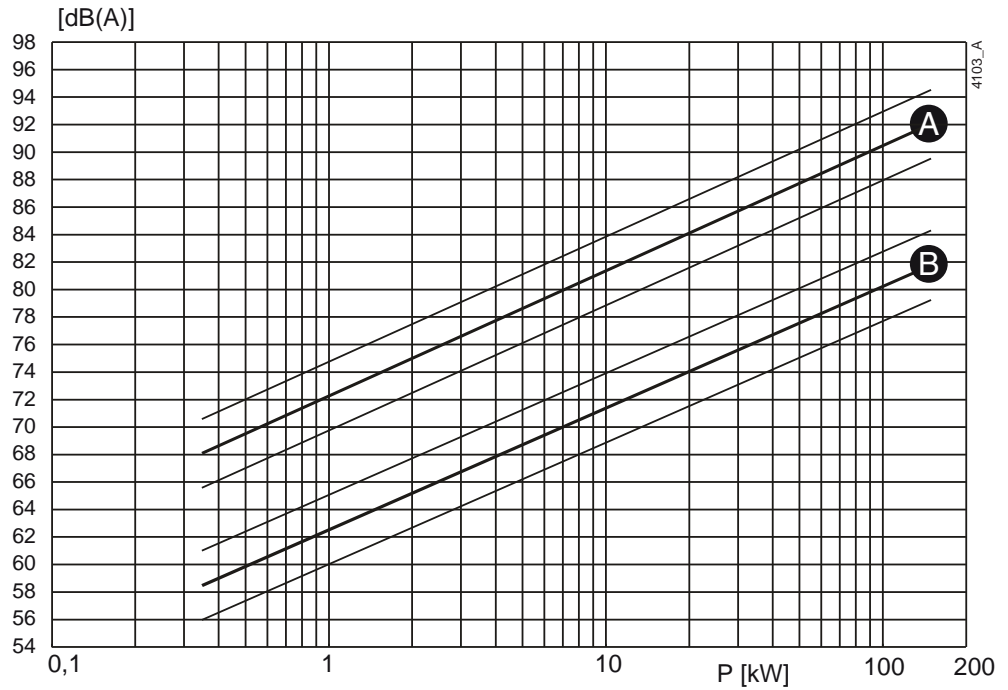
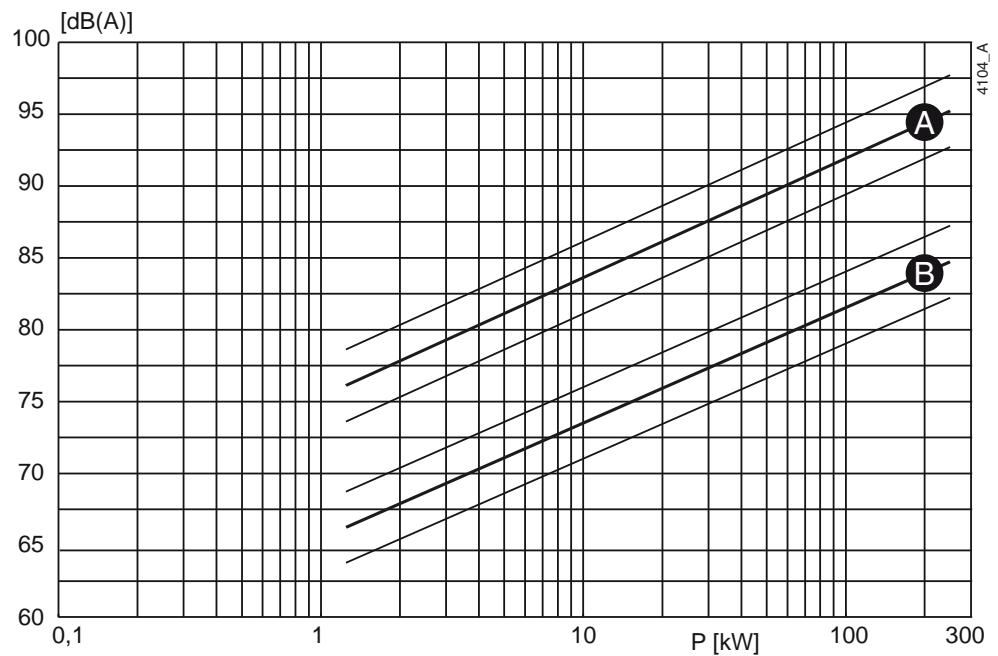

Figure 61: Noise level as function of pump power [kW] at 1450 min⁻¹
Figure 62: Noise level as function of pump power [kW] at 2900 min⁻¹
- 1 Determine the noise level (L_1) of the pump, see figure 61 or figure 62.